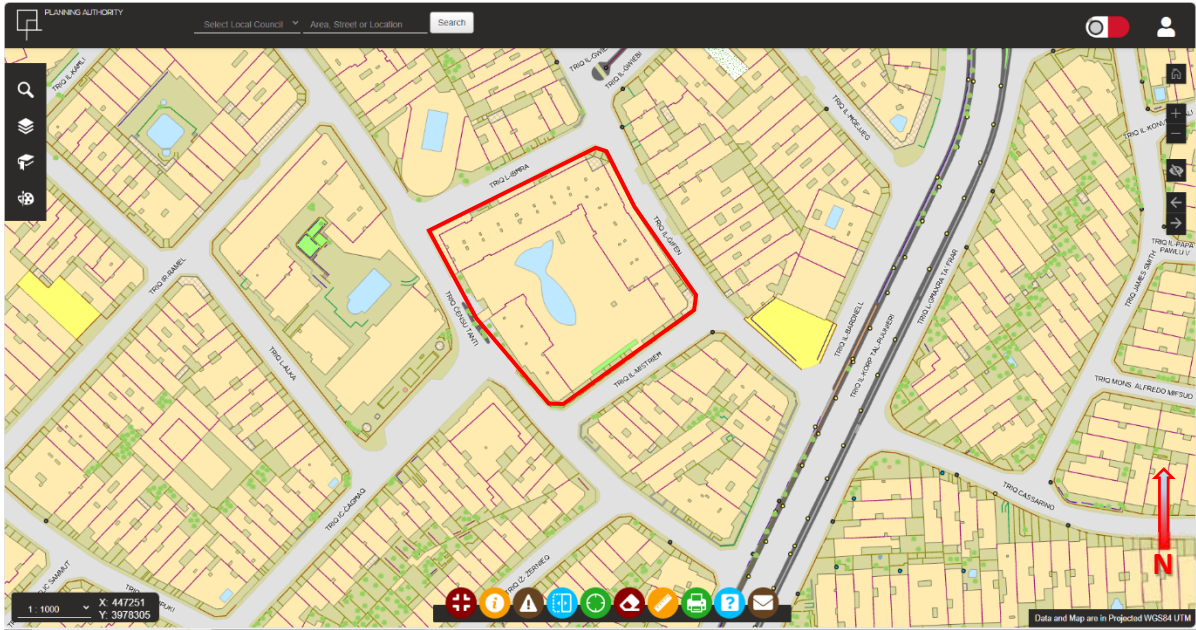
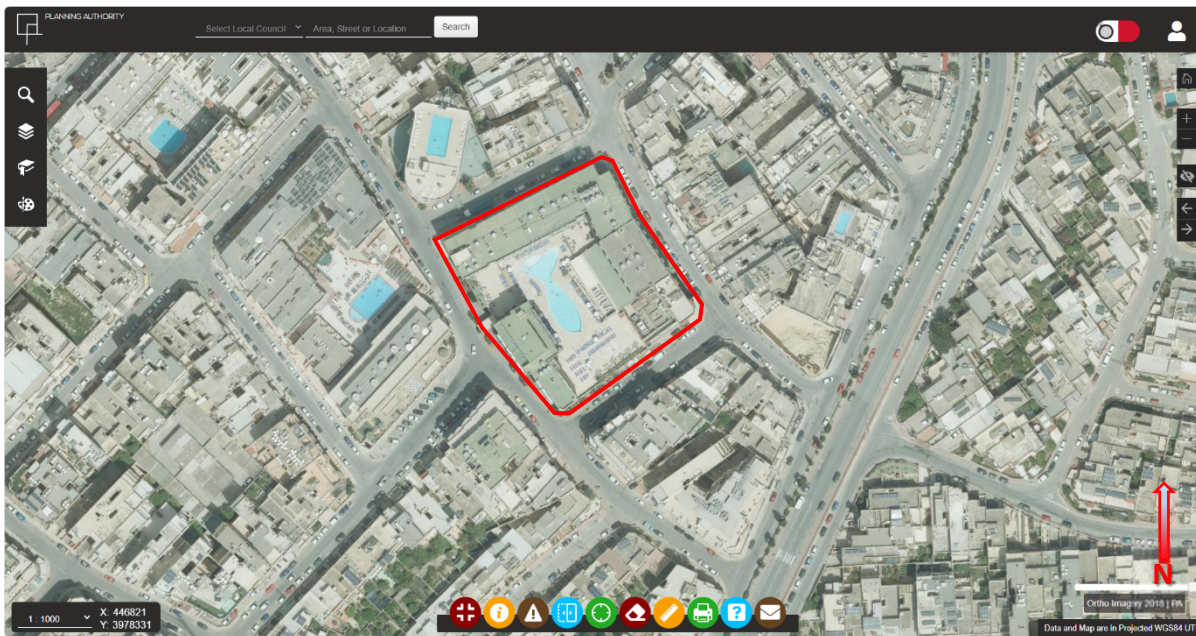

Figure 1: Site Plan of Proposed Multi-Storey Building Complex at Buğibba in St. Paul's Bay
Figure 2: Aerial Photograph of Proposed Multi-Storey Building Complex at Buğibba in St. Paul's Bay
- (1) The fully-detached building site is to be located within a busy touristic zone on a site, which is currently being used by an existing hotel complex, and which is very close to main road, Triq il-Korp tal-Pijunieri, and to the Buġibba Waterfront in St.Paul's Bays. The project site is bounded on the North-West by Triq il-Ġifen, on the North-East by Triq l-Ibħra, on the South-East by Triq il-Mistrieħ and on the South-West by Triq Ċensu Tanti, as shown in the site plan (Figure 1) and the aerial photograph (Figure 2).
- (2) The ground geotechnical conditions of the site need to be determined from the Geological Maps of the Maltese Islands and information on ground conditions obtained from the vertical excavated faces within the project site as well as recent construction projects within the area.